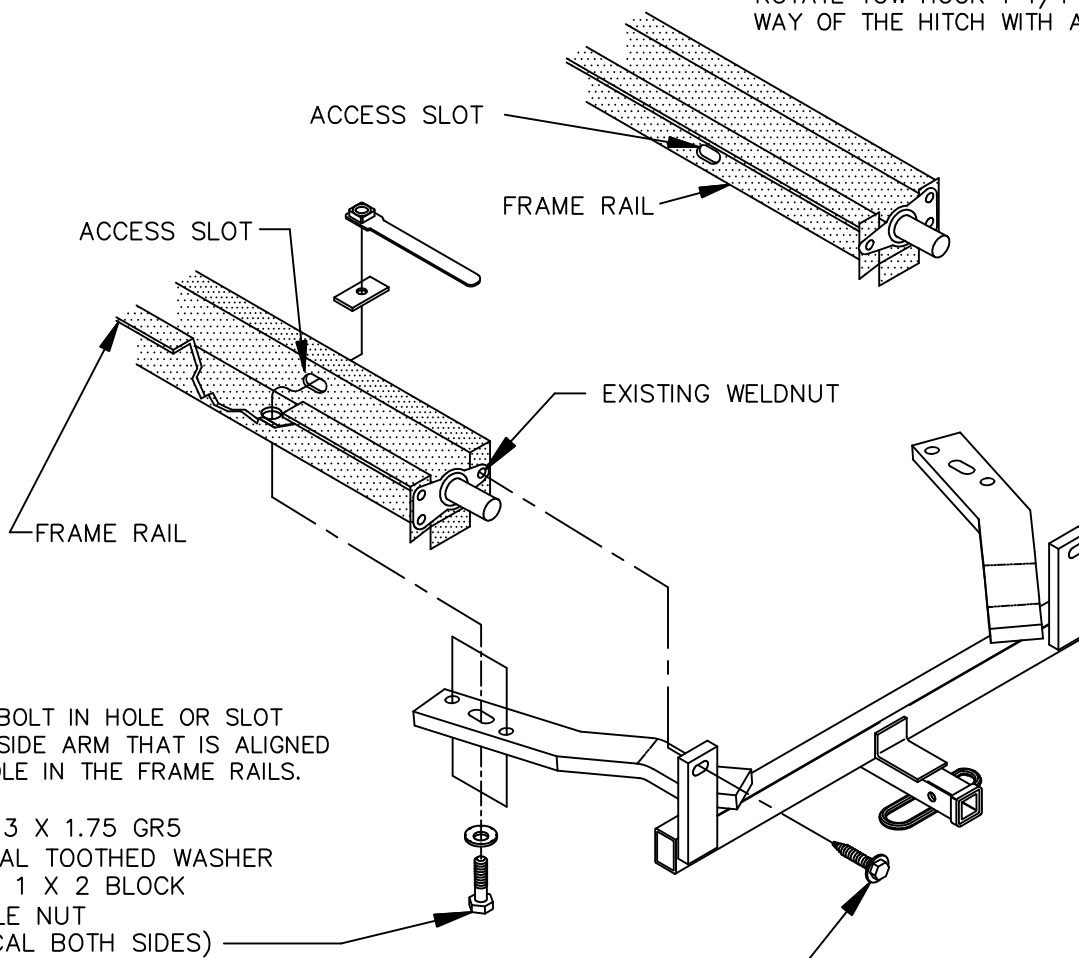

FIGURE 2.
2. REMOVE TWO (2) INBOARD E.A BOLTS, ONE (1) PER SIDE FROM E.A. UNIT (SEE FIGURE 2), DISCARD BOLTS.
3. POSITION HITCH ON VEHICLE AND ATTACH WITH TWO (2) M10 BOLTS, ON THE INBOARD SIDE OF THE E.A., ONE PER SIDE, AS SHOWN IN FIGURES 2 AND 4.
4. INSERT BLOCK AND HANDLE NUT THROUGH ACCESS SLOT. INSTALL HEX BOLT AND CONICAL TOOTHED WASHER THROUGH FRAME AND BLOCK INTO HANDLE NUT AS SHOWN IN FIGURE 2. ENSURE THAT HANDLE NUT CAN BE EASILY THREADED ONTO BOLT BEFORE INSTALLATION.